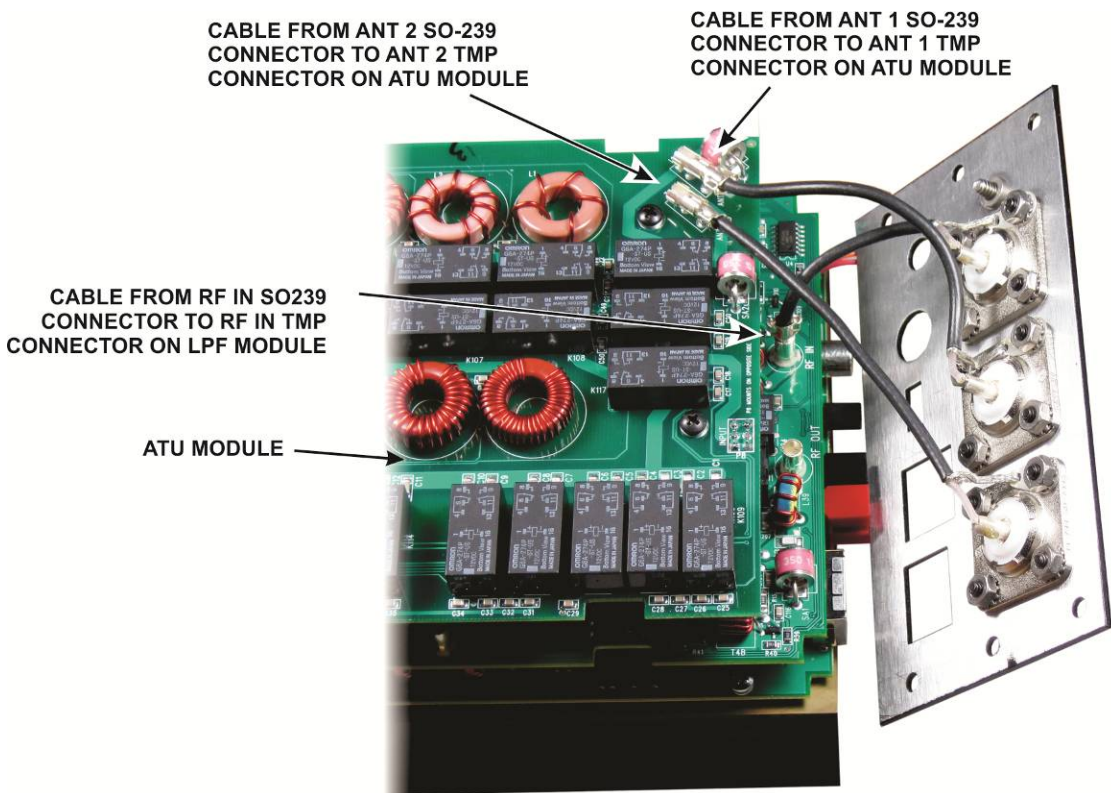
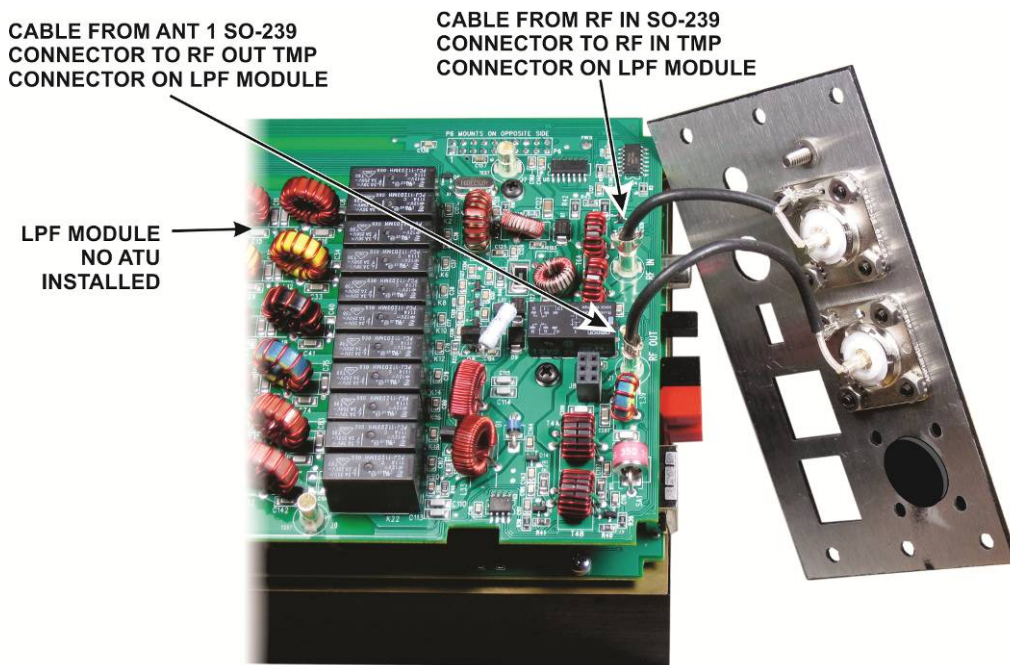

Figure 20. Rear Panel RF Cable Connections with ATU.
Figure 21. Rear Panel RF Cable Connections with No ATU.
**⚠ If you removed the bottom cover, be sure you have not dislodged any of the TMP connectors on the coaxial cables that attach to the pc boards in the KXPA100 (see *Figure 20. Rear Panel RF Cable Connections with ATU.* on page 48 or *Figure 21. Rear Panel RF Cable Connections with No ATU.* on page 49).**
- If you have the KXAT100 ATU installed, see Figure 20.
- If you do not have the KXAT100 ATU installed, see Figure 21.